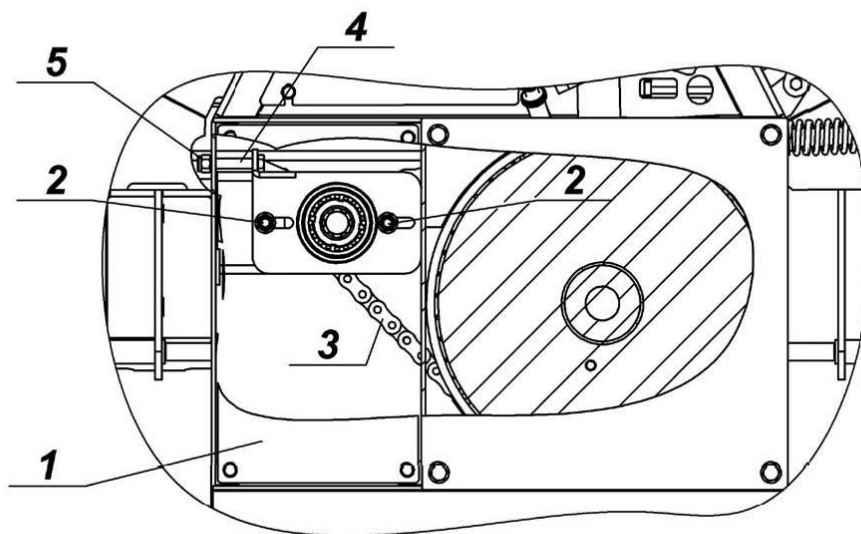

Figure 12
After a certain period of operation (10 hours), the drive chain stretches; therefore it must be checked frequently and tensioned, if required. It must be checked every 100 hours of operation. Tensioning is done according to the following procedure (figure 12)! First, disengage the PTO shaft and turn off the engine. Remove the protective sheet of the PTO shaft (pos. 1).
First loosen the nut and screw (pos. 2 and pos. 3, figure 12), which are used to tension the shorter chain. Then use the screw (pos. 5) to start tensioning the longer chain (pos. 6). Turn the screw to the right, until you reach an appropriate tension of the chain. At the same time, you must still hold the tightening nut. The chain is correctly tensioned when it can still oscillate for approx. 3 to 4 mm in the transverse direction. Tighten the retaining screws (pos. 4) which you have loosened before.
Then you can start tensioning the shorter chain (pos. 8, figure 12). if you have loosened the two nuts (pos. 7) beforehand, you can start turning the tensioning screw (pos. 3) to the left. This prevents the gap between both housings. Finally, tighten the lock nut (pos. 2) and the retaining screws of the upper housing (pos. 7).